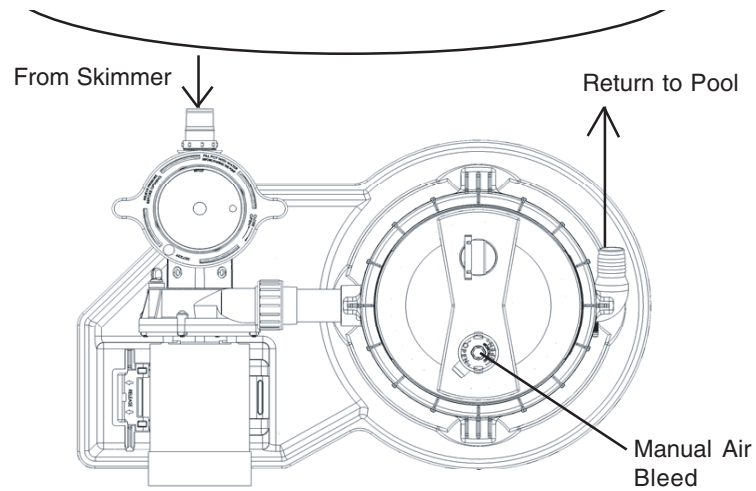

Figure 1.
2. Provide space and lighting for routine maintenance access. Locate the system close to the pool. Install electrical controls (e.g., on/off switches, timers, control systems, etc.) at least five (5) feet from the filter. This will allow you enough room to stand clear of the filter during system start up. Systems that are unassembled should be assembled at this point. See special instructions A through P.
- C. Place the system support base on the ground close to the final location of the unit. See Figure 1.
- M. The pump may now be attached to the pump support side of the base. The pump should be oriented as indicated in Figure 1.